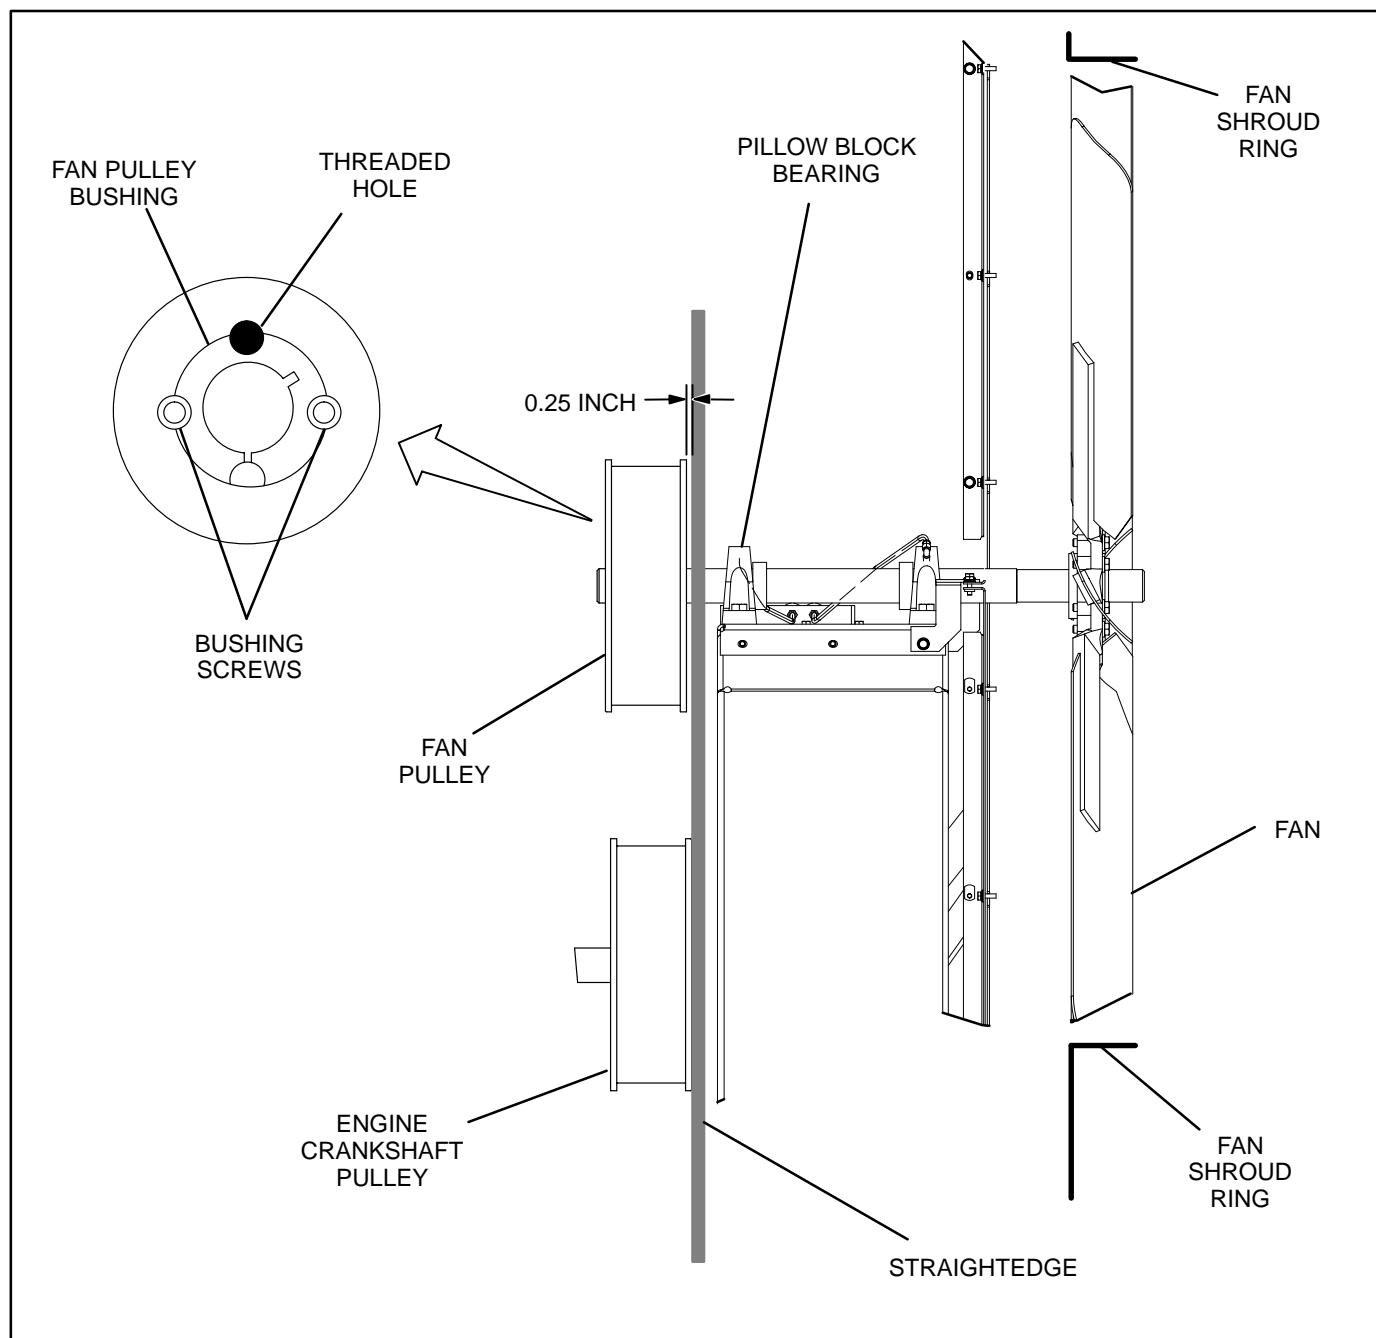

FIGURE 10-5. FAN DRIVE PULLEY ALIGNMENT
1. Use a long straightedge (not supplied) to align the crankshaft pulley to the fan drive pulley. The straightedge should be flat against the vertical surface of the engine pulley near the center. See Figure 10-5. The fan drive pulley should be 0.25" nominal toward engine from straight edge.
- C. Remove the two screws from the fan pulley bushing. Install one of these screws into the threaded hole located between the two screws that were removed. (Figure 10-5). Tighten the screw to separate bushing from pulley and remove the screw.